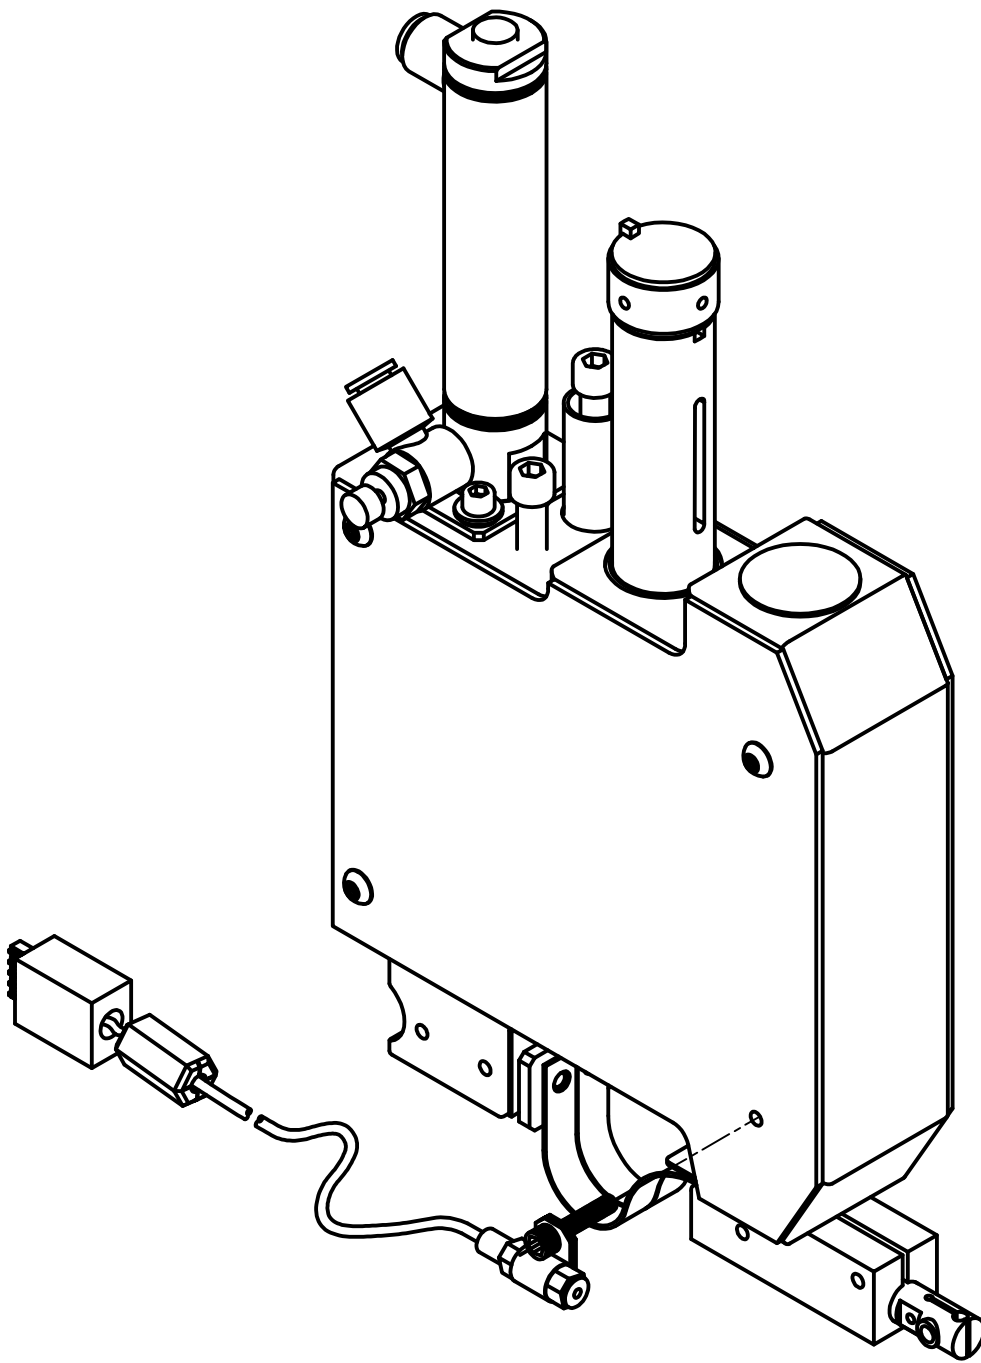

FIG. 1.
1. IF THE OLD STYLE EXTENSION CABLE (MICRO-PHONE JACK) IS INSTALLED, REMOVE AS SHOWN ON FIG. 1.